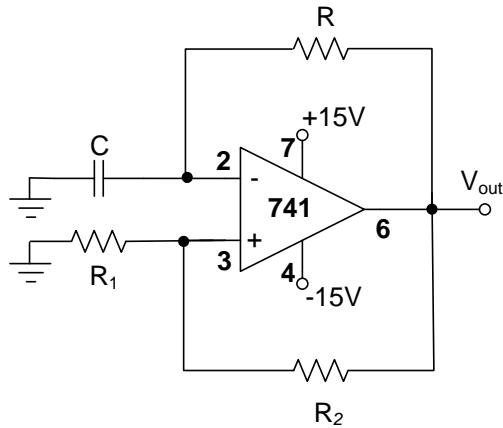

Figure 3: A simple square wave generator circuit
A simple circuit capable of generating square wave oscillation utilizing Schmitt Trigger is shown in Figure 3.
1. Design the oscillator of Figure 3 to provide square wave with frequency 2.5kHz use $C=15\text{nF}$.
5. Using SPICE simulate the circuit of Figure 3 from SPICE output file obtain the oscillation frequency. For simulating the op-amp you can use the model presented in Experiment 4.
1. Assemble the circuit shown in Figure 3 using your design. Measure the frequency of oscillation and duty cycle of the square wave output. Sketch the output wave form.